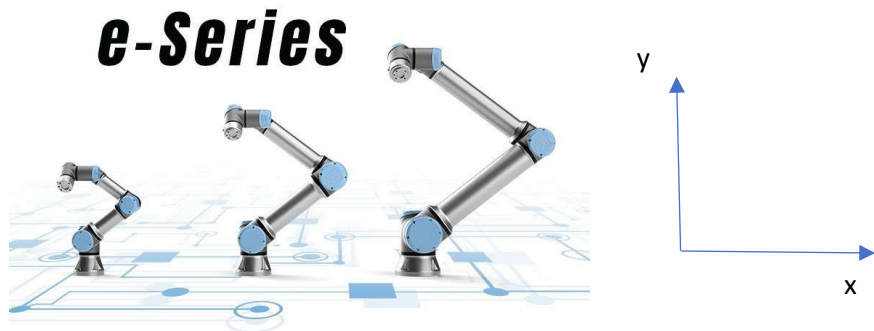

Figure 1. E-series cooperative robot made by Robotiq (www.robotiq.com)
- Figure 1 shows a very common two-link cooperative robotic elbow manipulator used in manufacturing and made by Robotiq. The middle size in Figure 1 is the same robot currently being used by a Senior Design team working with Agilent Technologies in Wilmington, DE. The robot is grounded at the bottom and the wrist is attached to the free end of the link chain. Assuming there is a force acting at the tip of the second link oriented at a 270 degree angle w.r.t the positive x-axis, model this robot as a two link chain, and ignore the mass of the gripper. Draw the free body diagram for each link taken separately and write out the equations of motion for each link, assuming there is a torque, T , applied to link 2 about the ground point. You do not have to solve for any of the forces or torques!